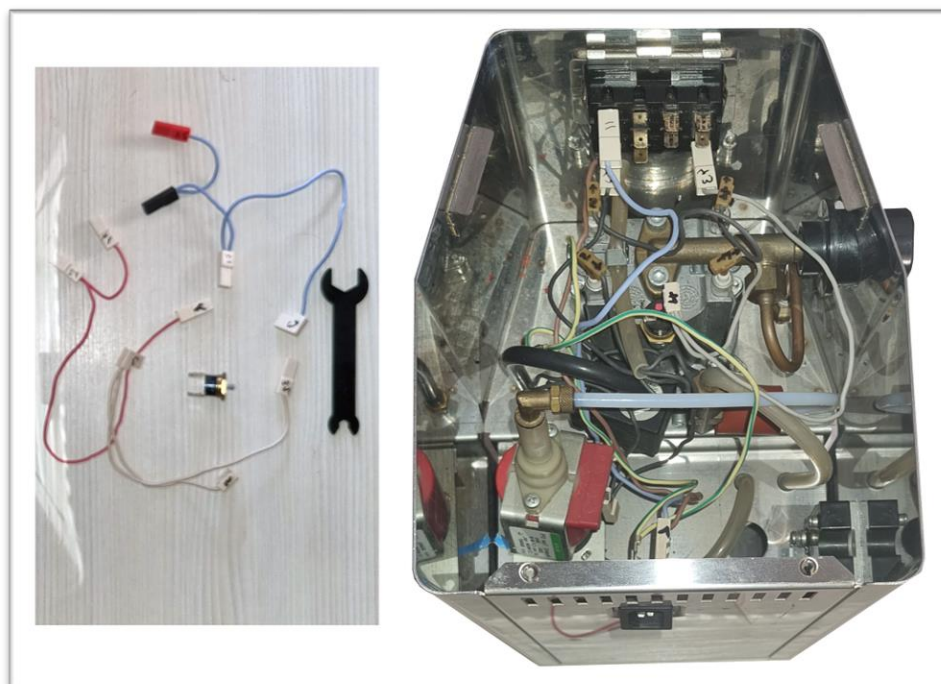

Fig. 3.2
- You have removed 4 cables and 1 sensor and your actual state is shown in (fig. 3.2)